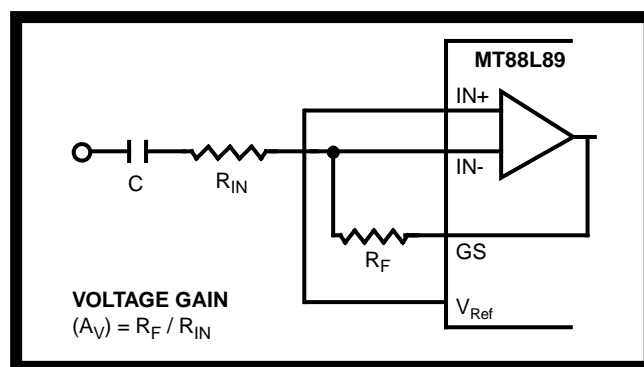

Figure 3 - Single-Ended Input Configuration
The input arrangement of the MT88L89 provides a differential-input operational amplifier as well as a bias source (V_{Ref}), which is used to bias the inputs at $V_{DD}/2$. Provision is made for connection of a feedback resistor to the op-amp output (GS) for gain adjustment. In a single-ended configuration, the input pins are connected as shown in Figure 3.